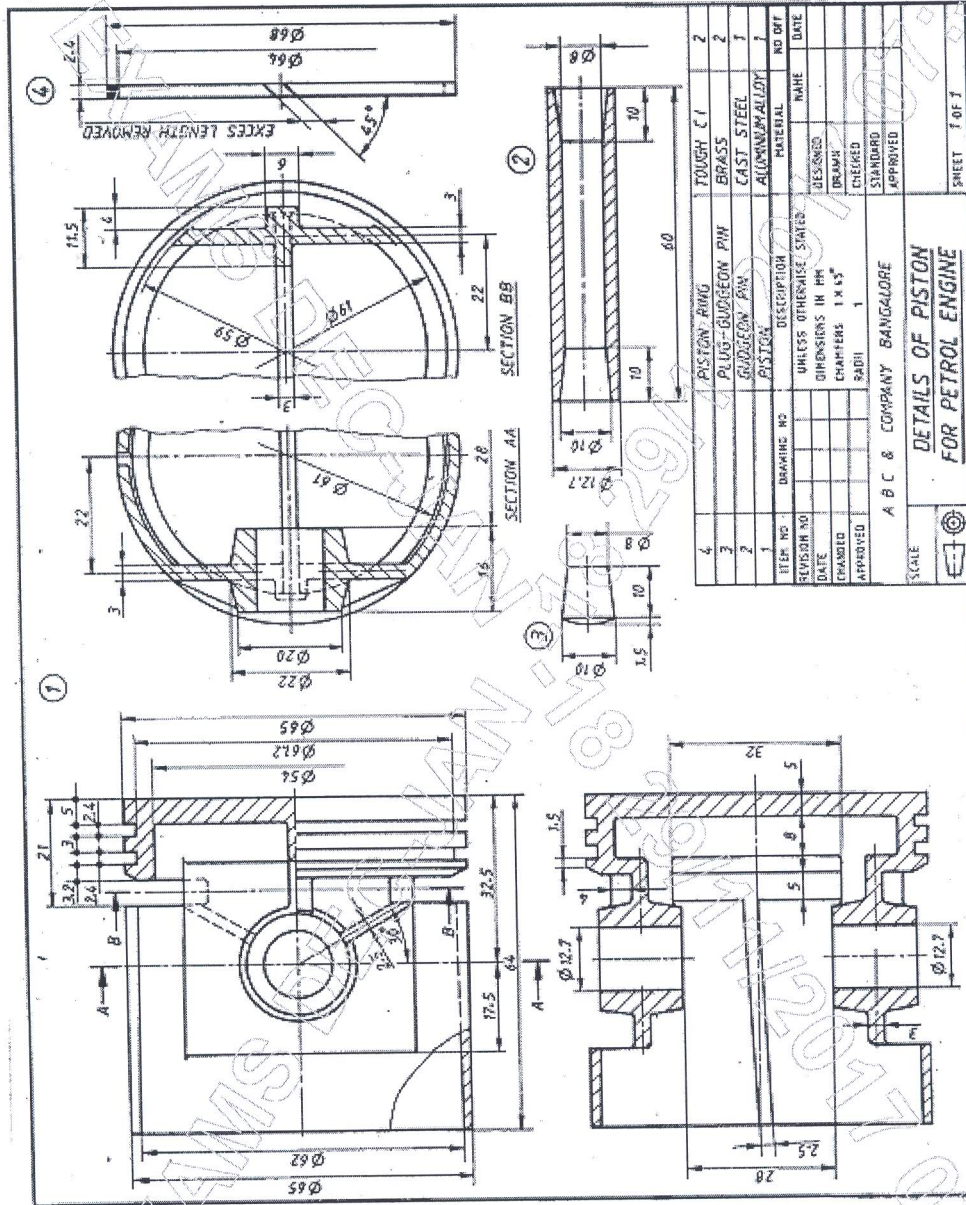

Figure 3
- The details of petrol engine piston are shown in figure 3. Assemble the parts and draw the following views of assembly.